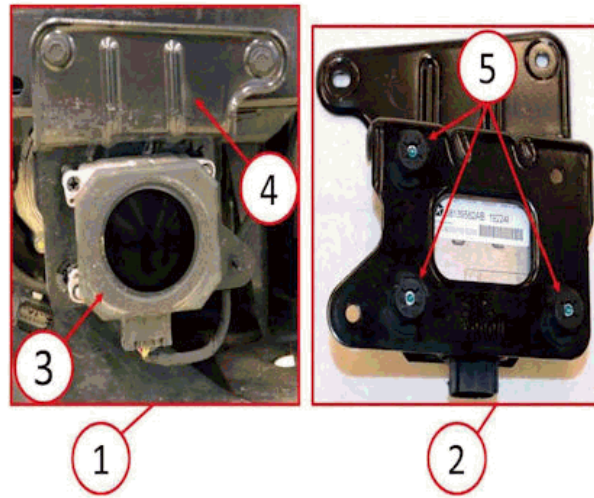

Fig. 1 Adaptive Cruise Control Sensor
- The three plastic ball socket clips in the sensor mounting bracket must be replaced each time the ACC sensor is removed from and reinstalled onto the mounting bracket (Fig. 1).